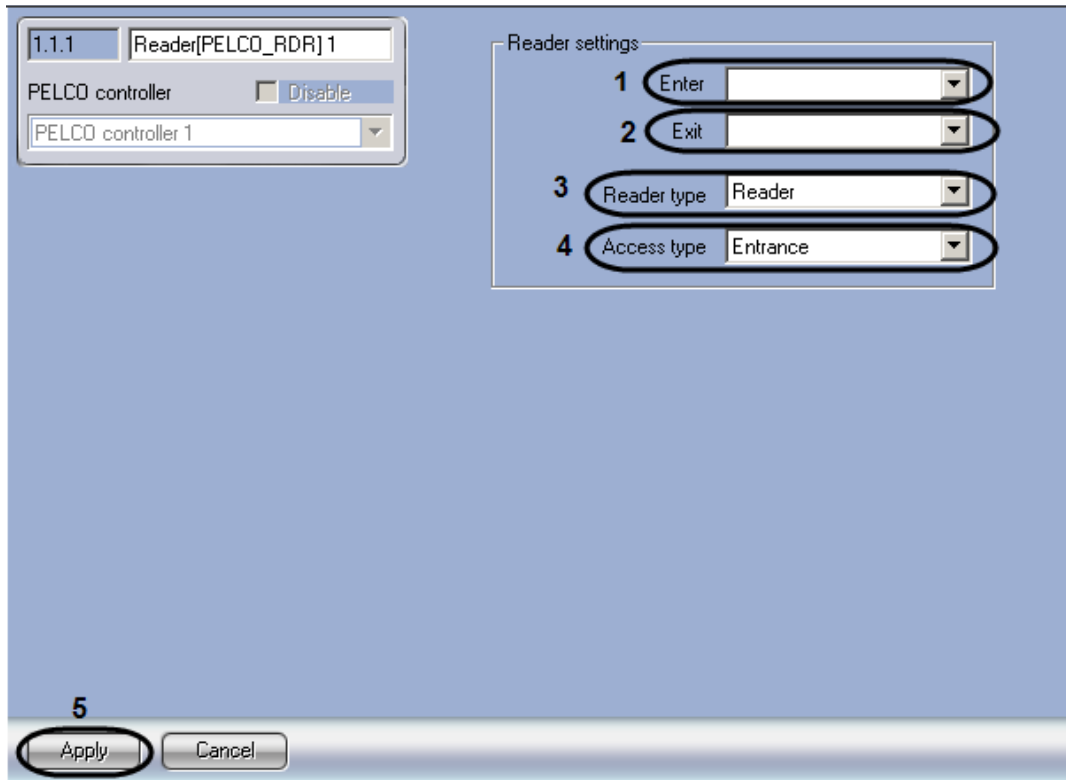

Fig. 3.4—2 Pelco Reader device control panel
2. From the **Enter** drop-down list select **Region** object corresponding to the area on the reader output side (Fig. 3.4—2, 1).
3. From the **Exit** drop-down list select **Region** object corresponding to the area on the reader input side (Fig. 3.4—2, 2).